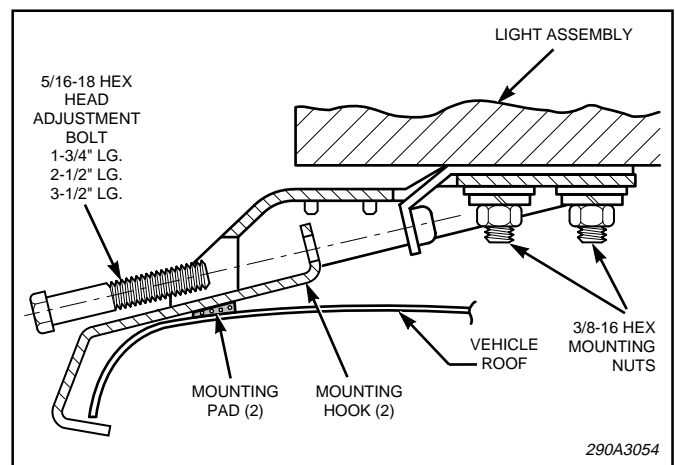

Figure 1.
2. To prevent wear of the vehicle's roof, place the foam mounting pad on the mounting hook as shown in figure 1.
3. See figure 1. Insert the hook into the opening in the center of the mounting bracket. Install the 1-3/4", 2-1/2" or 3-1/2" stainless steel adjusting bolt (finger tight). Insure that the hook does not interfere with the door gasket or glass. Repeat step on other side of light assembly.